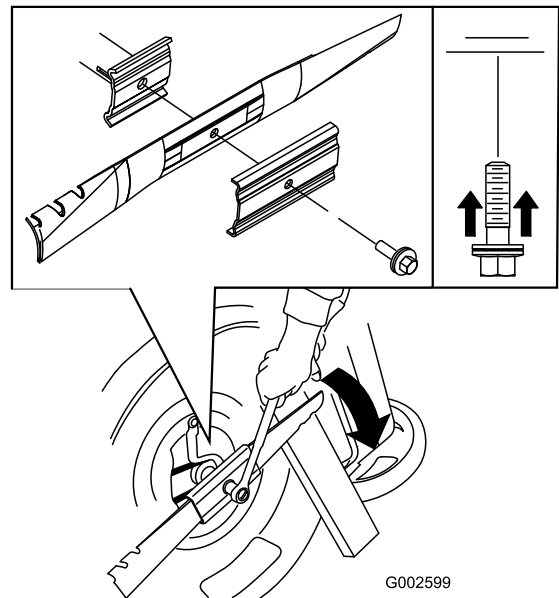

Figure 32
5. Install the new blade (turn the blade bolt clockwise) and all mounting hardware (Figure 32).